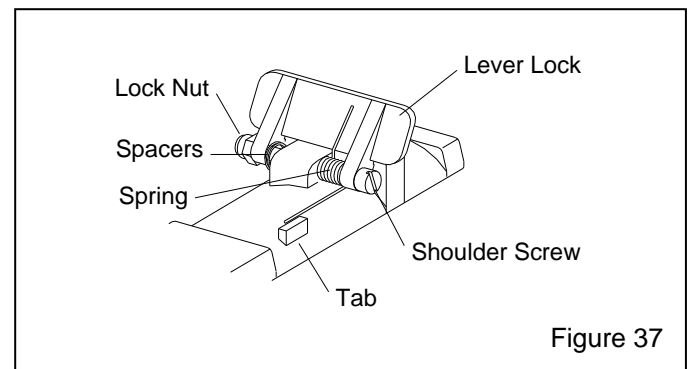

Figure 37
7.8.2 Lever lock replacement, Figure 37
7.8.2.1 Remove the lock nut from the shoulder screw. Before removing the screw, note the positions of the spacers and spring, as shown in Figure 37. The bent end of the spring is toward the inside, forcing the lever lock up. The straight end is toward the outside, facing down and against the tab.